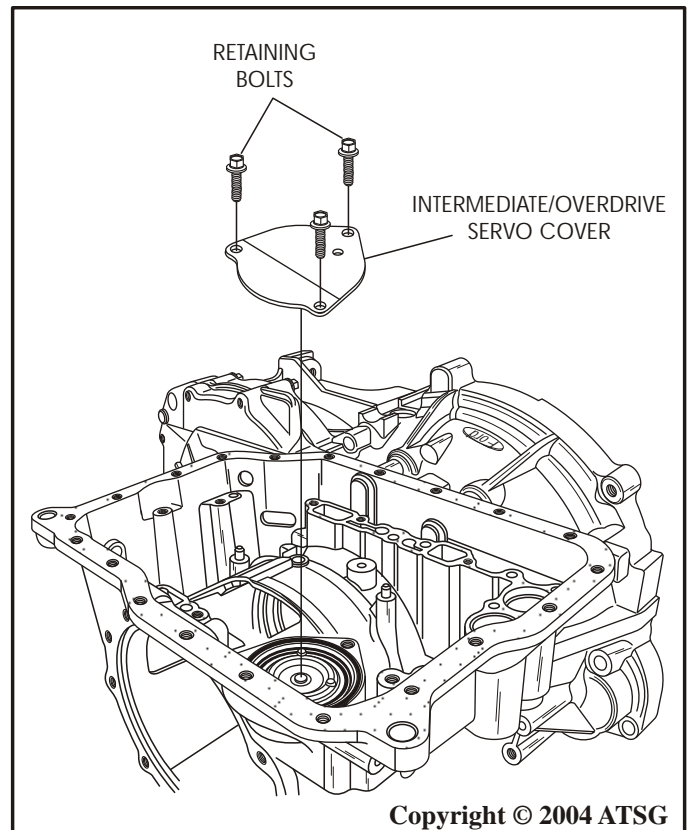

Figure 45
42. Remove intermediate/overdrive servo cover, as shown in Figure 45.